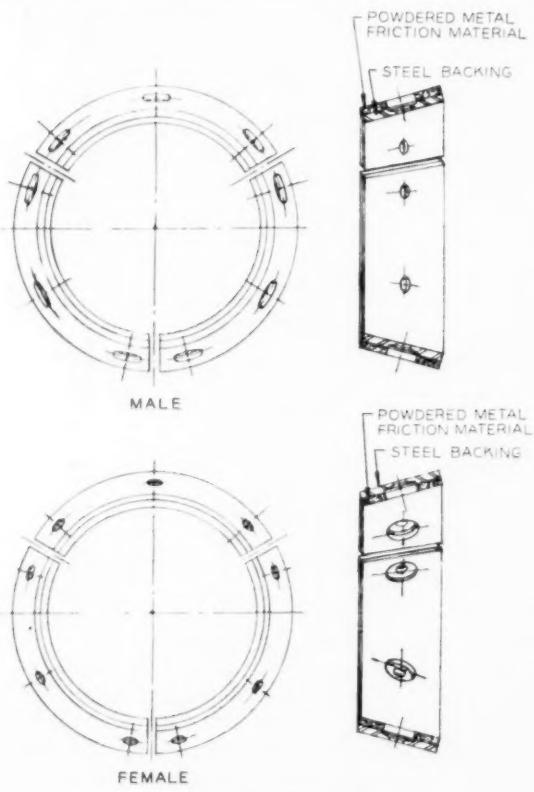

FIG. 8 CONICAL BLOCKS
**Blocks—Conical.** This type lining, Fig. 8, is made with both male and female form, in which the friction material is on